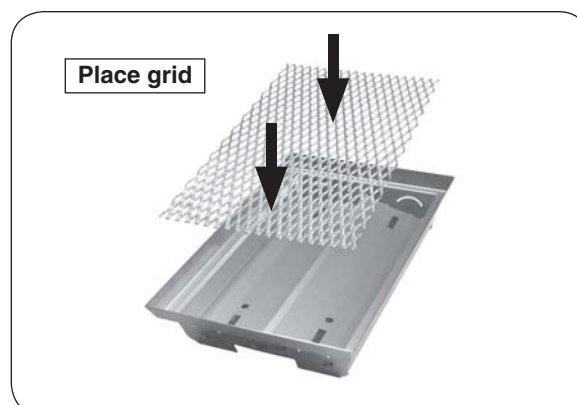

Fig. 30-2 Place metal grid inside basket
1. Place the metal grid inside the basket frame (see Fig. 30-2).